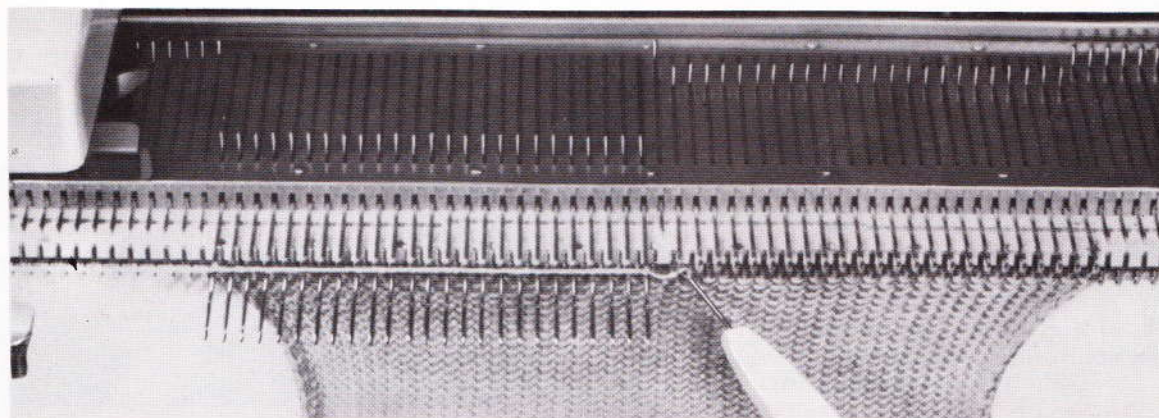

Fig. 160
3. Knit 1 row. The carriage is on the left. Row counter shows 21. Transfer the first stitch on the left onto adjacent needle and place empty needle in A position (fig. 160).